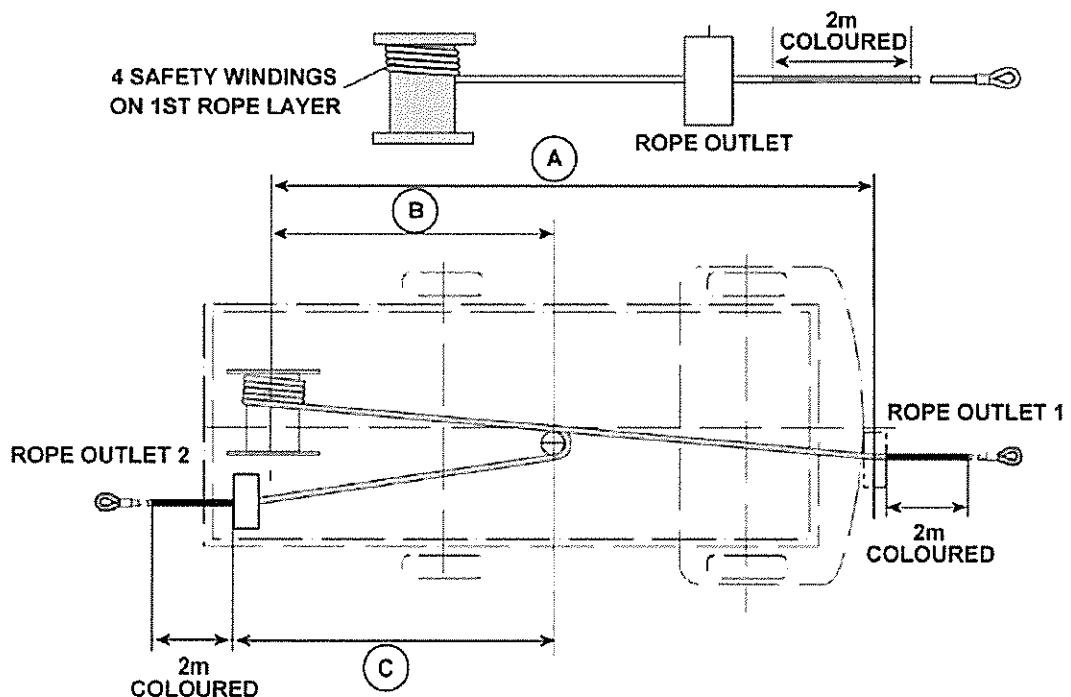

Fig 2 Diagram to show coloured section of rope (viewed from below)
- 12 Refer to Fig 2. A 2m portion of the rope after the last four windings is coloured in order to give the correct safety margin for winch operation.